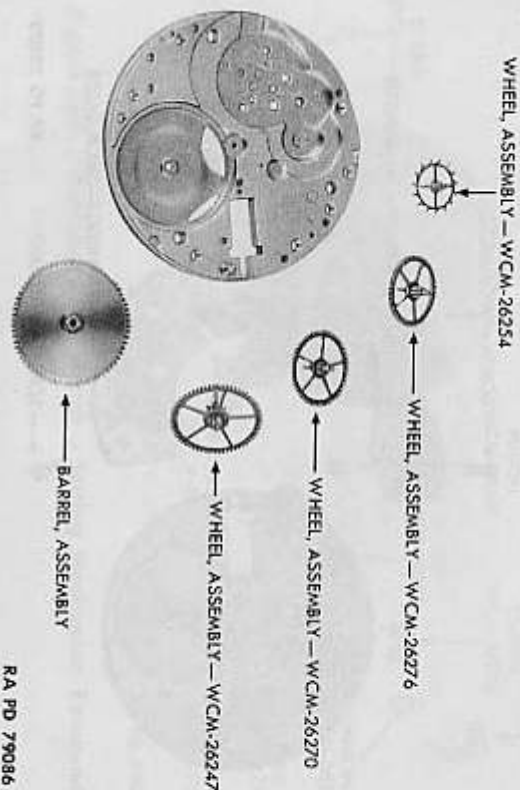

Figure 163 — Waltham Wrist Watch — Train Wheels and Barrel Assemblies Removed
n. Remove Train Wheels and Barrel Assemblies (fig. 163). Remove center, third, fourth, and escape wheels, and barrel assembly.
c. Replace Train Wheels and Barrel (fig. 163). Place mainspring barrel assembly on pillar plate. Replace train wheels in the following order: escape, fourth, third, and center wheels.